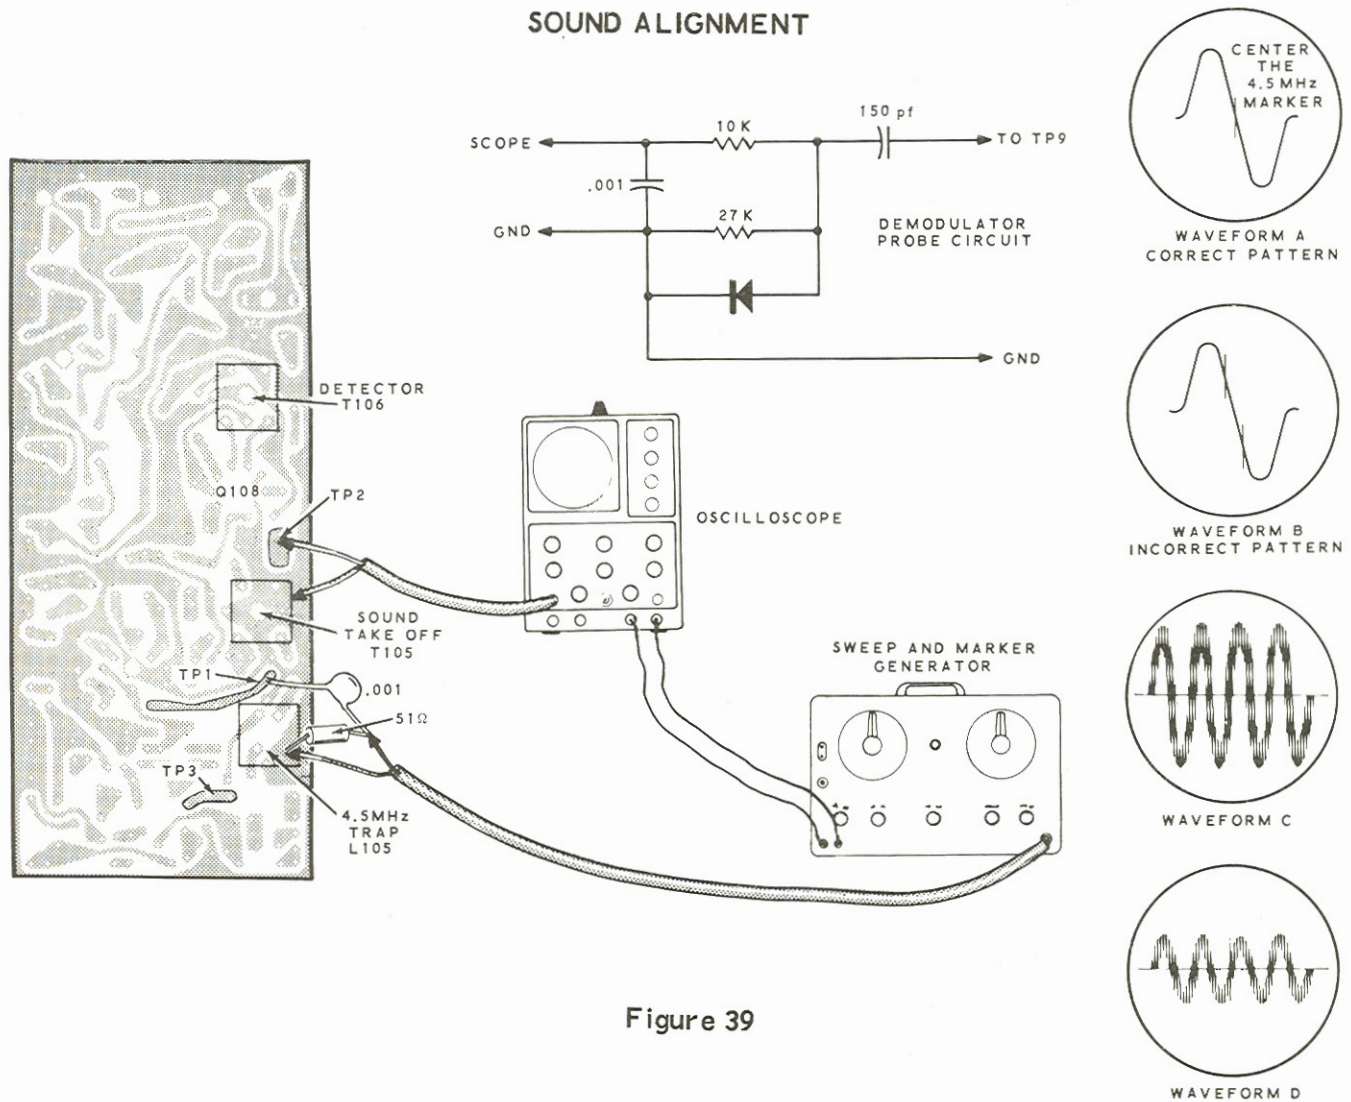

Figure 39
## SOUND IF AND DETECTOR ALIGNMENT (Figure 39)
- ( ) Adjust the top slug in T106 to position the 4.5 MHz marker in the center of the linear portion of the waveform, as shown in waveform A of Figure 39. Waveform B shows the incorrect positions of the 4.5 MHz marker.